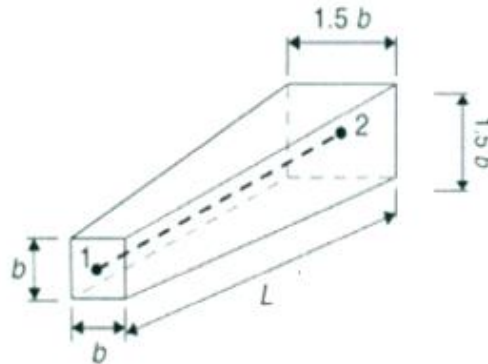

FIGURE 3B
3B. For the bar element with varying cross-section shown in **figure 3B**, derive the element stiffness matrix. Assume Elastic modulus (E) as constant and Area (A) varies linearly. 03 M